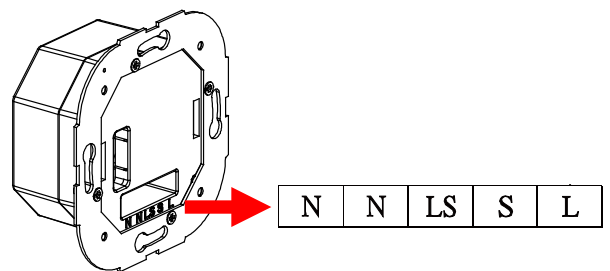

FIGURE 6
- On the recessed power unit you can find the wiring terminals. (FIGURE 6)